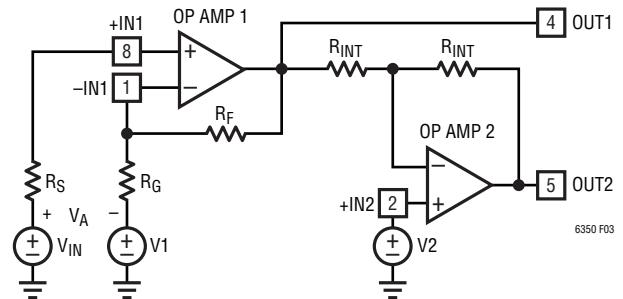

Figure 3. General Configuration
Because the input op amp presents its output and both its inputs to LT6350 pins, alternative configurations are possible. Consider the general configuration shown in Figure 3.
The simple connection described in the Basic Connections section can be seen as a special case of the general circuit in Figure 3 where  $R_F$  is a short circuit,  $R_G$  is an open circuit, and the voltage at  $V_{IN}$  is centered around the voltage  $V2$ . If differential gain greater than two is needed, the values of  $R_F$  and  $R_G$  can be adjusted in accordance with Equation (2). Additional information about feedback networks is given in the next section and in the Input Amplifier (Op Amp 1) Feedback Components section.
Although the previous examples have assumed the input signal is applied at +IN1, it is also possible to use the input op amp in an inverting configuration by fixing the voltage  $V_{IN}$  and applying the input signal at  $V1$  of Figure 3. Using the input op amp in the inverting configuration fixes its input common mode voltage at the voltage  $V_{IN}$ , which allows the input signal at  $V1$  to traverse a swing beyond the LT6350 supply rails. To avoid unwanted differential offsets in this configuration  $V_{IN}$  should be chosen such that:
When feedback resistors are used to set gain in op amp 1, care should be taken to ensure that the pole formed by the feedback resistors and the total capacitance at the inverting input, -IN1, does not degrade stability. For instance, to set the LT6350 in a differential gain of +4,  $R_F$  and  $R_G$  of Figure 3 could be set to  $1k\Omega$ . If the total capacitance at -IN1 (LT6350 plus PC board) were  $3pF$ , a new pole would be formed in the loop response at  $106MHz$ , which could lead to ringing in the step response. A capacitor connected across the feedback resistor and having the same value